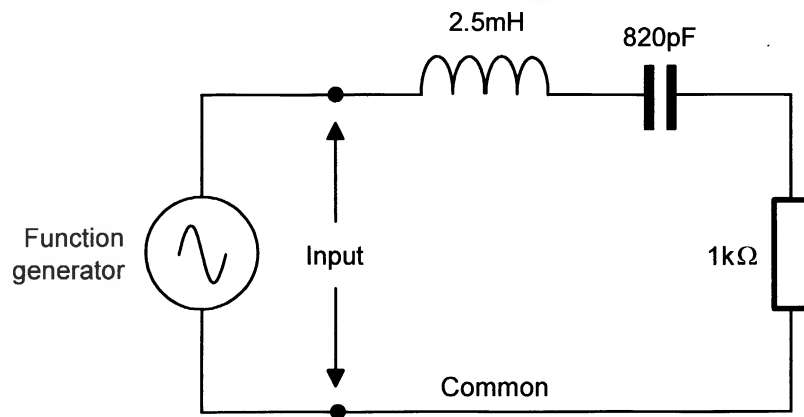

Figure 1
3. Wire the circuit of Figure 1. Make sure that the components are wired in the order shown.